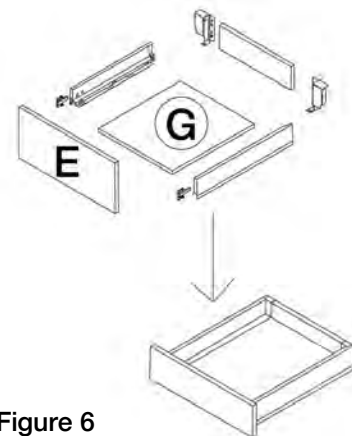

Figure 6
8. Assemble the drawer boxes. (Figure 6)